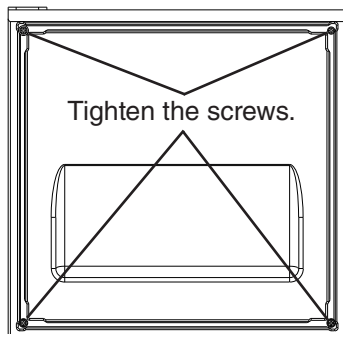

**Fig. 17**
- 5) Fasten the overlay panel to the door using the four M4x25 pan head screws provided. **Snug the screws, but do not tighten.** See Fig. 17.